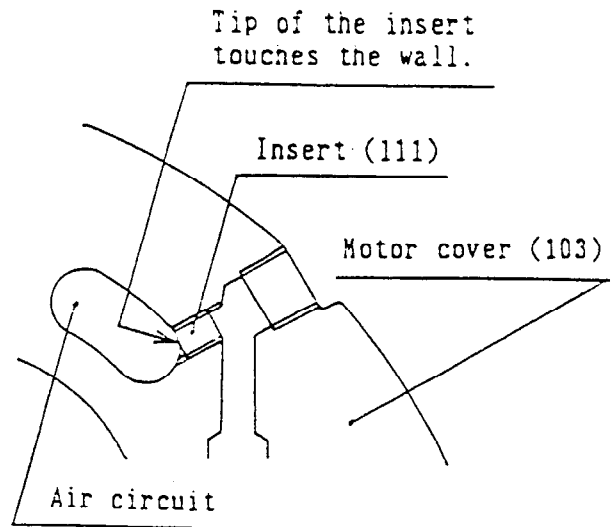

Fig. 15
- ⑤ Ball bearing (95) of end plate (93) and rotor (97) are interference fit. Therefore, when assembling, use jig and insert using hand press. When inserting rotor to the ball bearing, support load with inner ring of the ball bearing. Keep forcibly inserting until the rotor is in complete contact with the spacer.
- ⑥ Slightly lubricate the part between the end plate and the rotor and also vane (98) portion. (Use the same oil used for the lubricator.)
- 10) Set up cover (91) on motor housing (84), then mount coned disc spring (92) and the air motor.
- ① Using solvent such as trichloroethylene, etc. degrease plug (108), set screw (110), insert (111) and their mounting positions on motor cover (103).
- ② Coat the set screw and outer periphery of the insert with sealant and screw. Screw the insert until the tip touches the air circuit wall. (Fig. 15) Use Loctite 510 or equivalent for sealant.